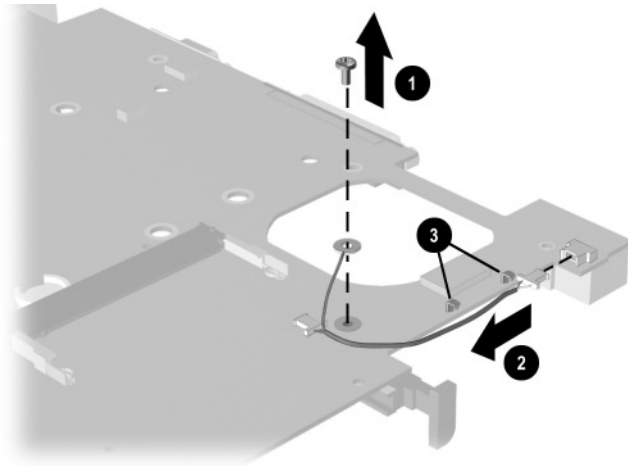

Figure 5-45. Removing the Modem Cable
3. Remove the PM2.0 × 4.5 screw ❶ that secures the modem ground cable to the system board (Figure 5-45).
4. Disconnect the modem cable ❷ from the system board.
5. Remove the cable from the clips ❸ on the system board.